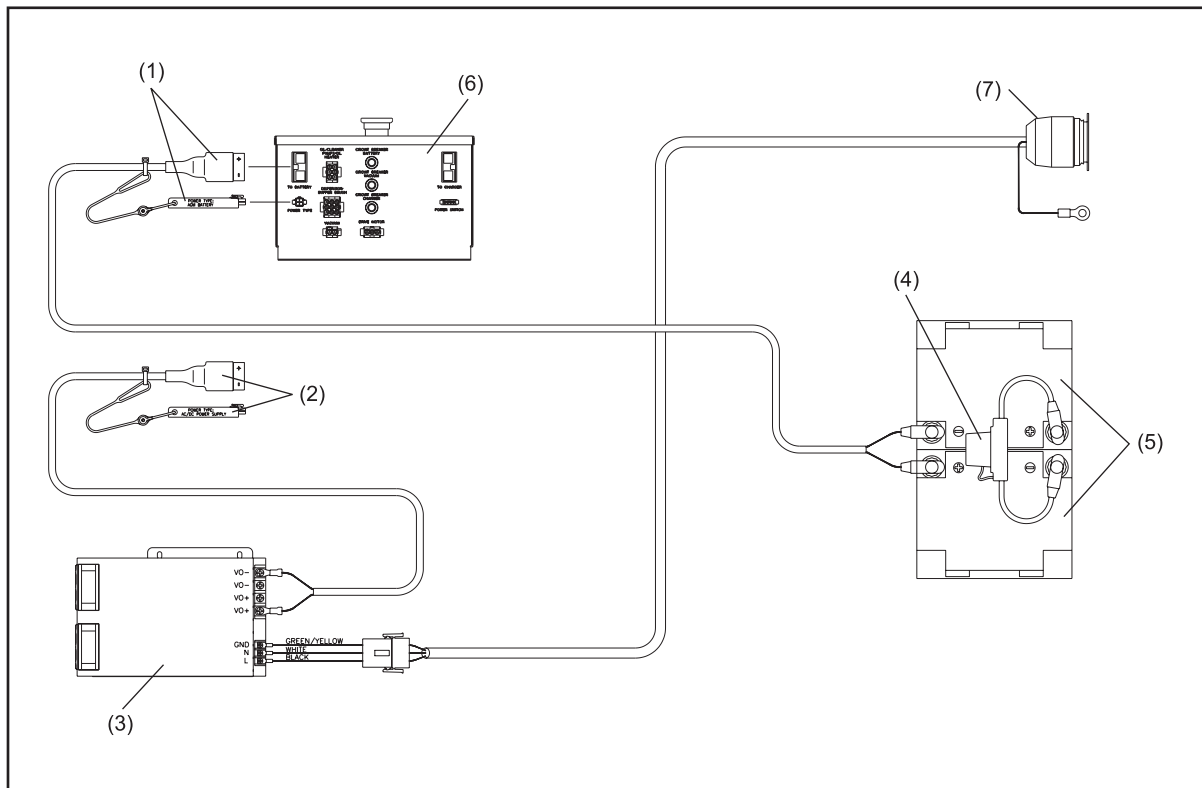

Figure 2-9. AGM Battery Configuration
3. Figures 2-9 and 2-10 show these components in configurations with both types of batteries